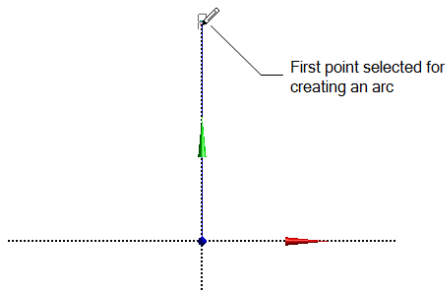

Figure 3-60 Specifying the start point of the arc
16. Move the cursor close to end point of Line 1; the symbol of Point Coincident (**P**) is displayed. Next, click to specify the start point for arc 1, as shown in Figure 3-60.